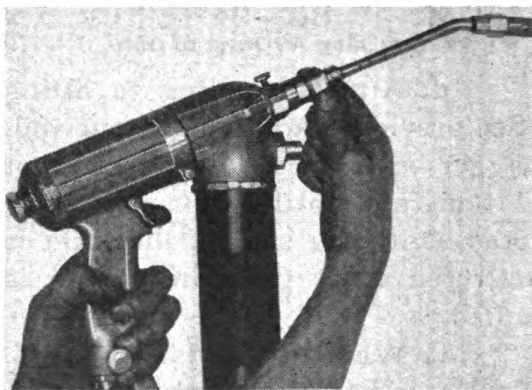
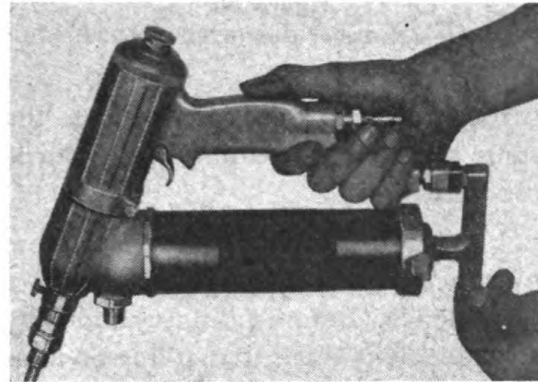

Figure 75
Figure 79
a. Attach proper extension (See Figure 75) or whip end hose to
f. When service is completed, detach air hose, release air pressure from cylinder (See Figure 79), detach extension or hose (See Figure 75), and wipe dirt and grease off gun before placing it in drawer.